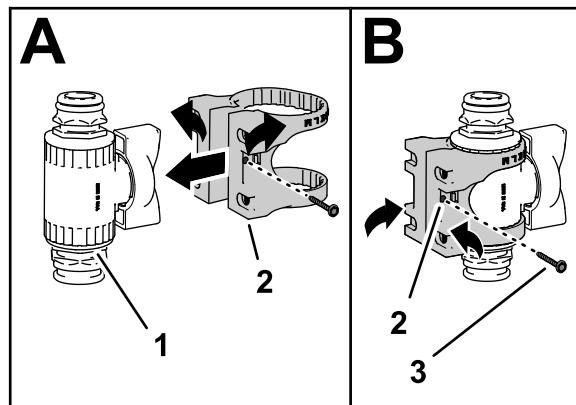

Figure 27
4. Assemble the valve mount onto a straight control valve as shown in A of Figure 27.
5. Secure the valve mount to the control valve with the flange-head screw (#6), and tighten the screw by hand (B of Figure 27).